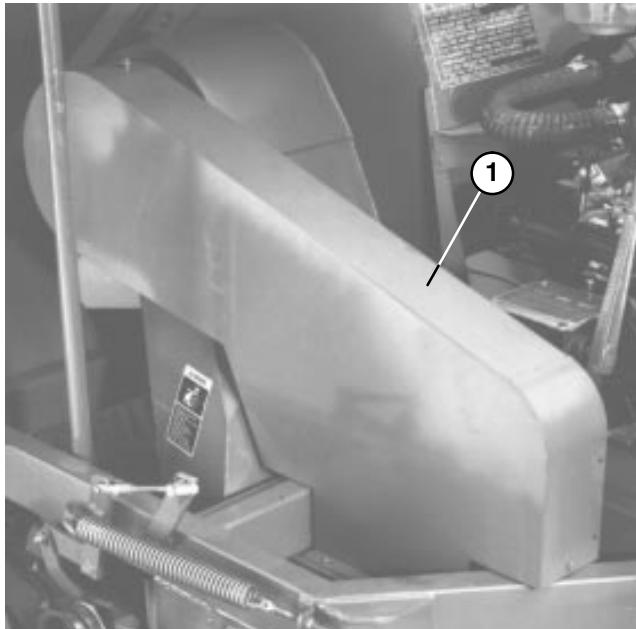

Figure 34
NOTE: It is not necessary to remove upper belt guard (Fig. 34) to check belt tension. If for some reason belt guard must be removed, remove (4) capscrews, washers and nuts securing guard to frame. **Never operate sweeper without guards in place.**
- A. Remove (4) capscrews, washers and nuts securing upper shroud to frame (Fig. 34).